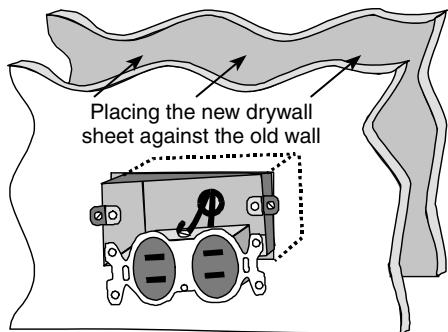

Figure 8-24
- Push the drywall sheet tightly up against the wall (see Figure 8-24).